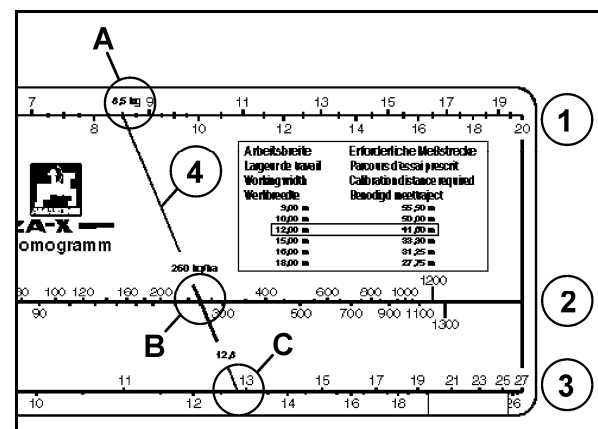

Fig. 68
7. Find the number (**8.5 kg**), find the numeric value (**A**) on the upper scale (Fig. 68/1). For the desired spread rate (**260 kg/ha**) find the numeric value (**B**) on the middle scale (Fig. 68/2). Lay a straight connecting line through points **A** and **B**. On the bottom scale (Fig. 68/3), the extension of the connecting line shows the numeric value (**C**) for the required slider position, which here is **12.8**.